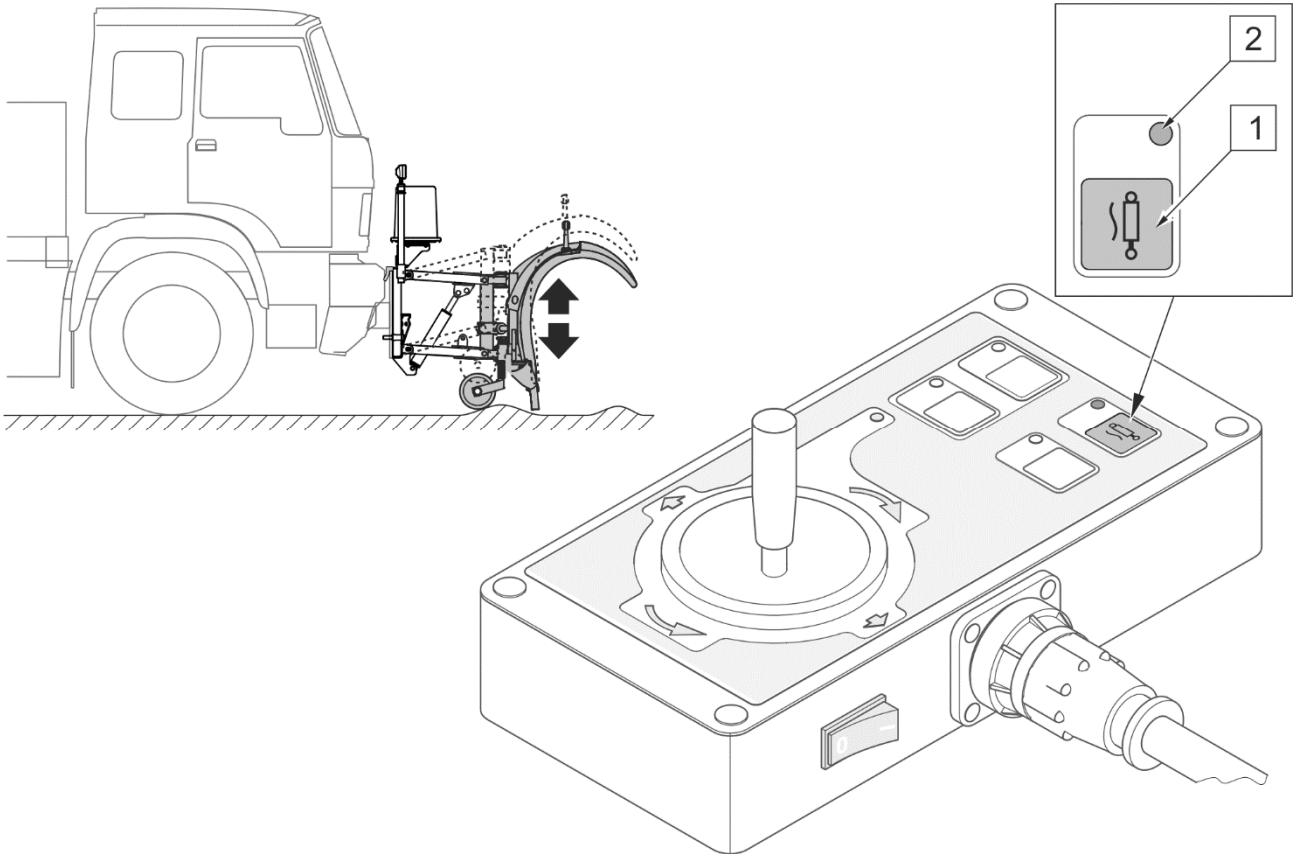

FIGURE 4.12 Floating function
The floating function (FIGURE 4.12) is switched on with push-button (1). Activation of the floating function is signalled by yellow indicator light (2). When push-button (1) is pressed again, floating function and indicator light (2) are switched off.